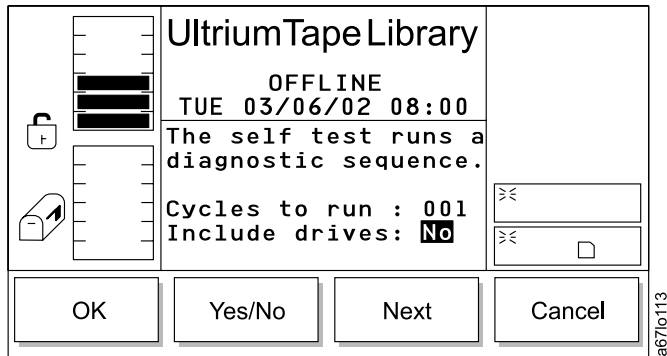

Figure 185. Include Drives Dialog
- If **Next** is selected, the next field in the list becomes the active field (see Figure 185 on page 146).